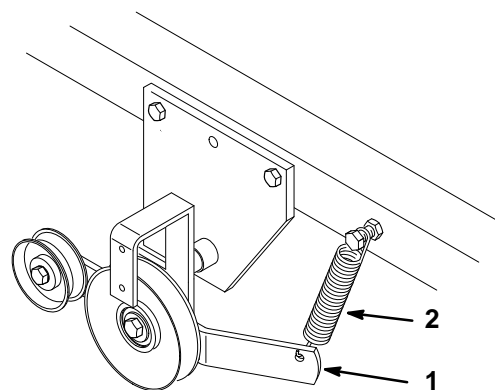

Figure 28
2. As the drive belt wears, and the tiller is raised and lowered, the spring loaded idler arm moves (Fig. 28).